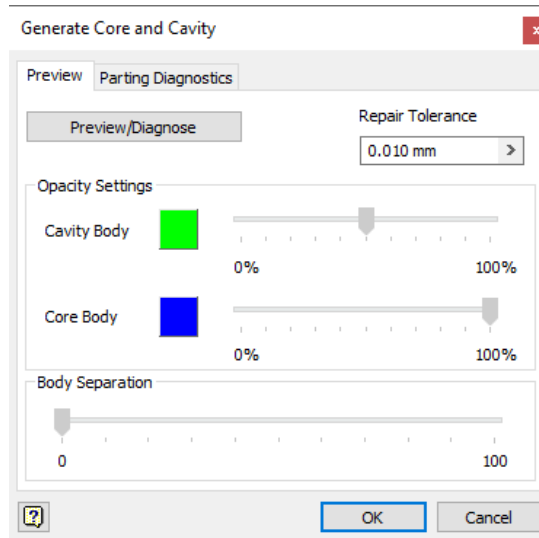

Figure 19-78 The *Generate Core and Cavity* dialog box
1. Choose the **Generate Core and Cavity** tool from the **Parting Design** panel in the **Core/Cavity** tab of the **Ribbon**; the **Generate Core and Cavity** dialog box is displayed, as shown in Figure 19-78.